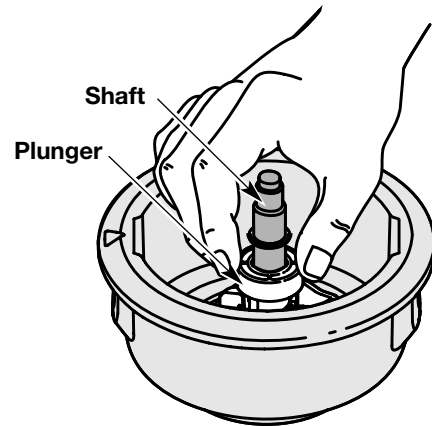

Fig. 27
5. Clean the shaft and the inner surface of the outer spool. To clean the shaft underneath the plunger, press down on the plunger (Fig. 27). Remove any dirt or debris from the shaft.